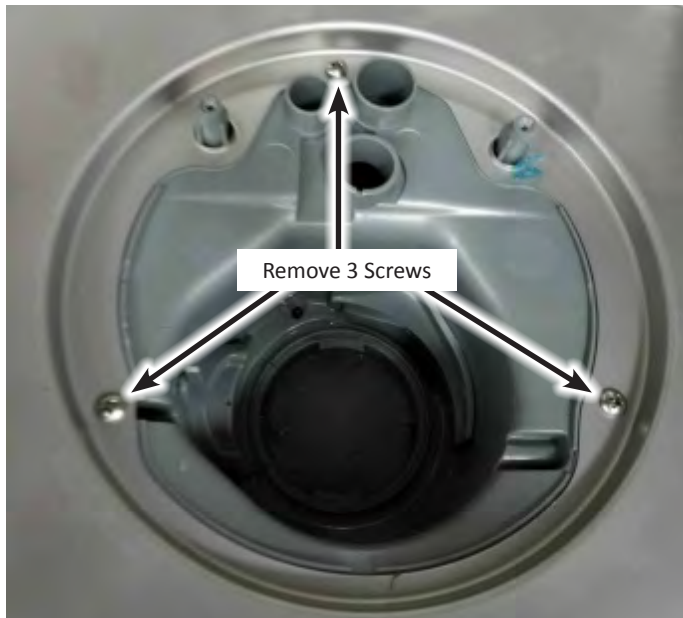

Figure 2
- Remove the three (3) screws that attach the sump to the tub. See Figure 2.